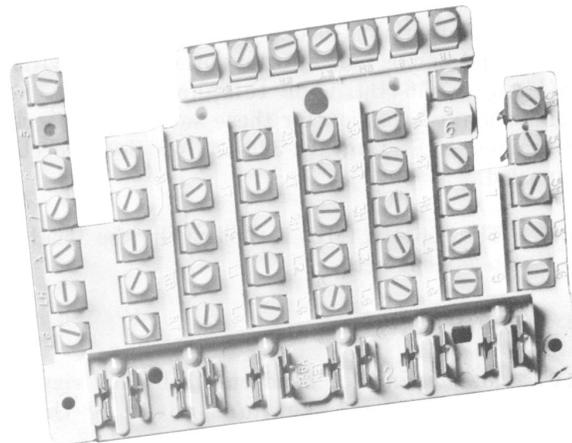

Fig. 2—636A Key, Top View
2.10 Maintenance of the 636-type keys (Fig. 2 and 3) consist of cleaning contacts with a 265C tool.